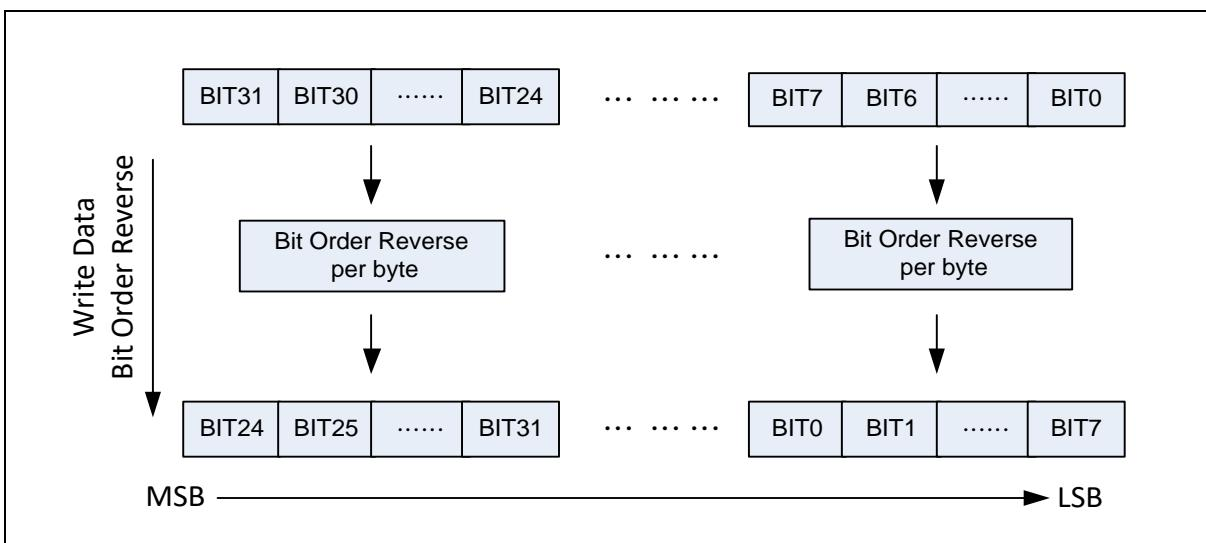

Figure 6.22-3 Write Data Bit Order Reverse Functional Block
- Configure bit order reverse for CRC write data per byte by setting DATREV (CRC_CTL[24] Write Data Bit Order Reverse). The functional block is also shown in Figure 6.22-3.